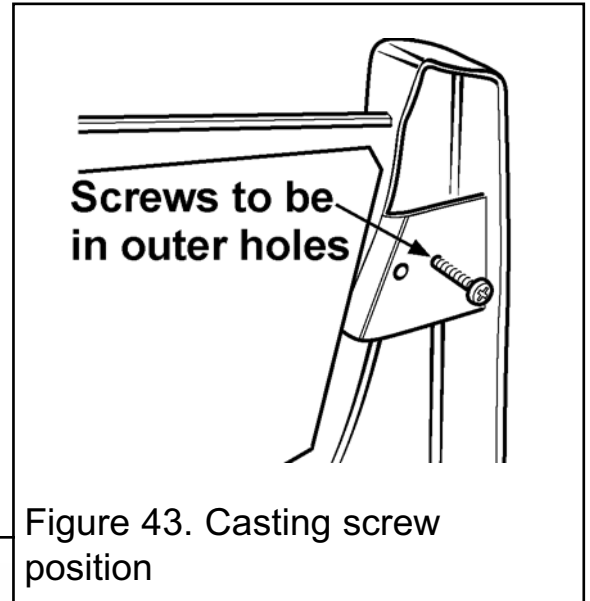

Figure 43. Casting screw position
**14.5.1** Check that the two screws in the back of the fire front casting are in the outer threaded holes. If they are in the inner holes, relocate them (See figure 43).